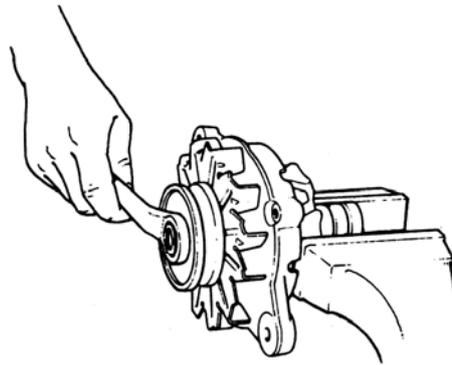
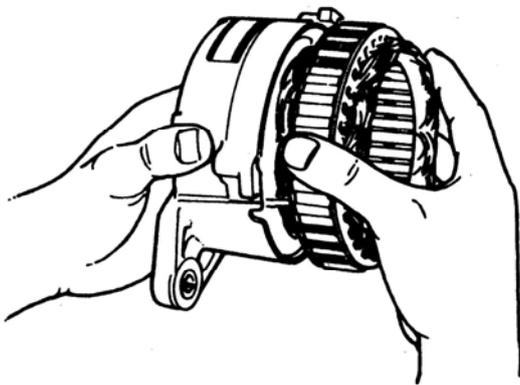

Fig. 9-50
Fig. 9-51
- (2) Fix the rotor with vise. Release nuts. Remove pulley, fan and end frame (Fig.9-50). (3) Remove 3 screws securing rectifier holder in place, and one other nut holding down terminal insulator. Remove rotor house (Fig.9-51)